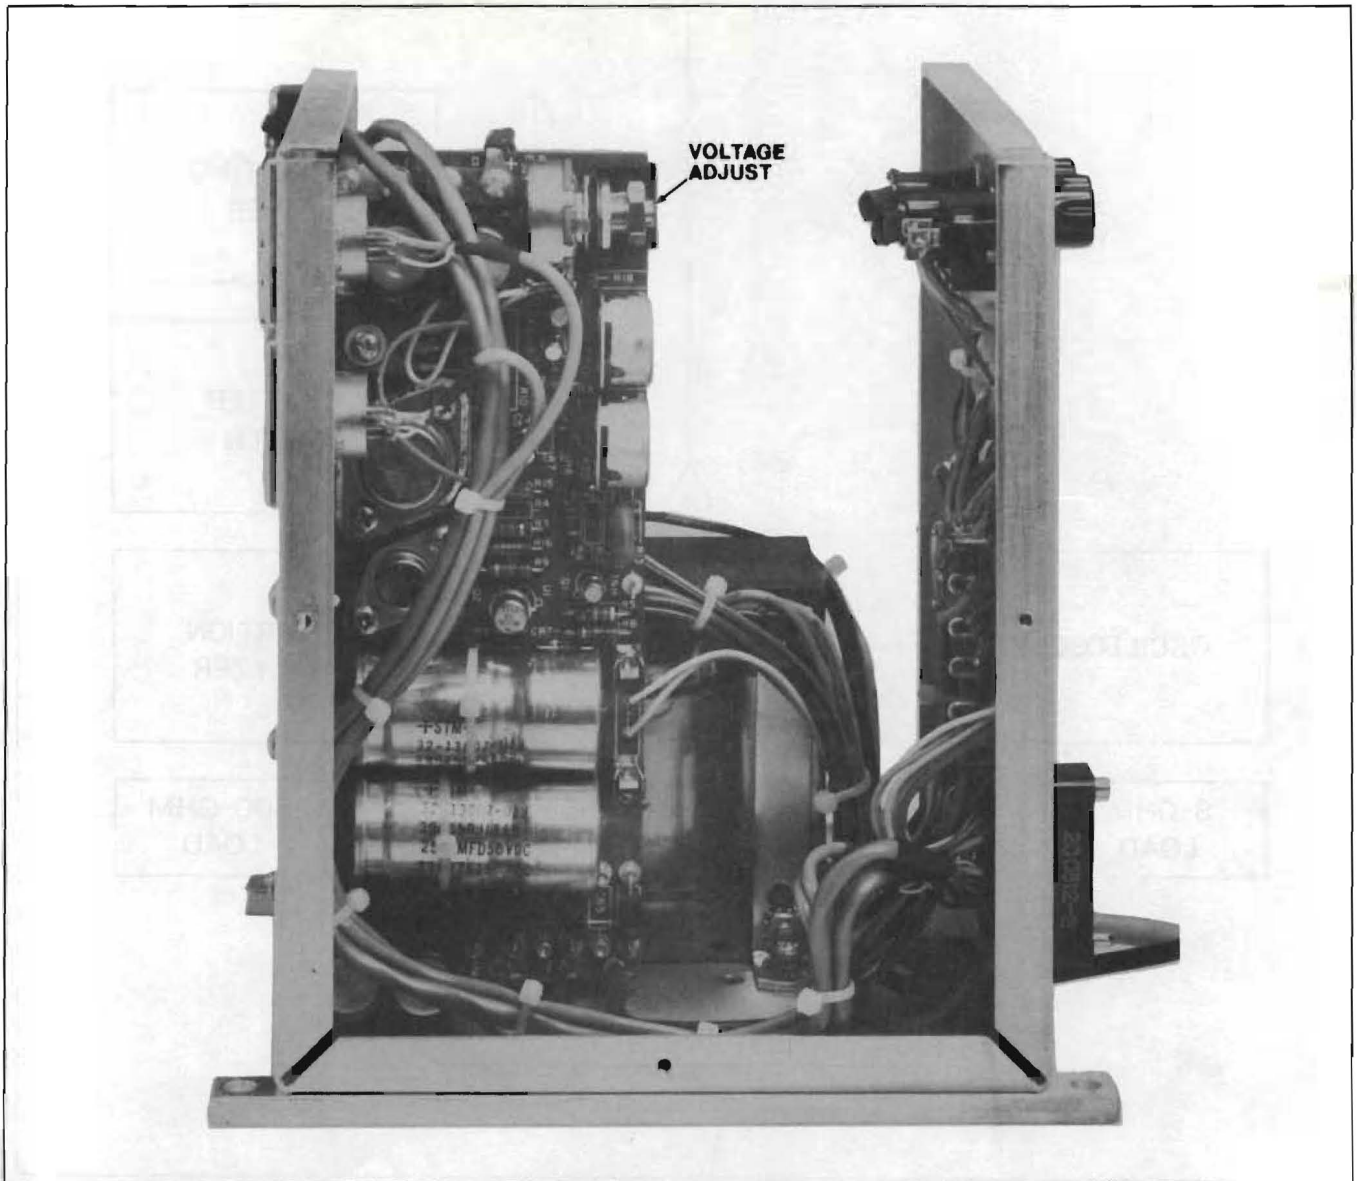

Figure 6-2. Power Supply Voltage Adjustment
6.10 Plug the machine into a source of power and measure the voltage of the B+ buss. It should be +24 ± 2 volts dc on the logic chassis. If it is not, adjust the power supply regulator output voltage adjust screw, Figure 6-2.